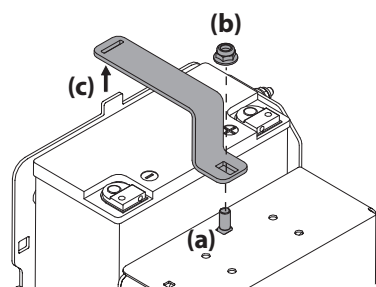

Figure 36
4. Locate and hold the carriage bolt (a) at the front of the battery bracket (c) to prevent it from falling. See Figure 36.
5. Remove the hex lock nut (b) securing the battery bracket (c) in place. Save the carriage bolt and hex lock nut for later reinstallation. See Figure 36.
6. Lift the battery bracket (c) off of the tab at the left side of the battery compartment and save for later reinstallation. See Figure 36.